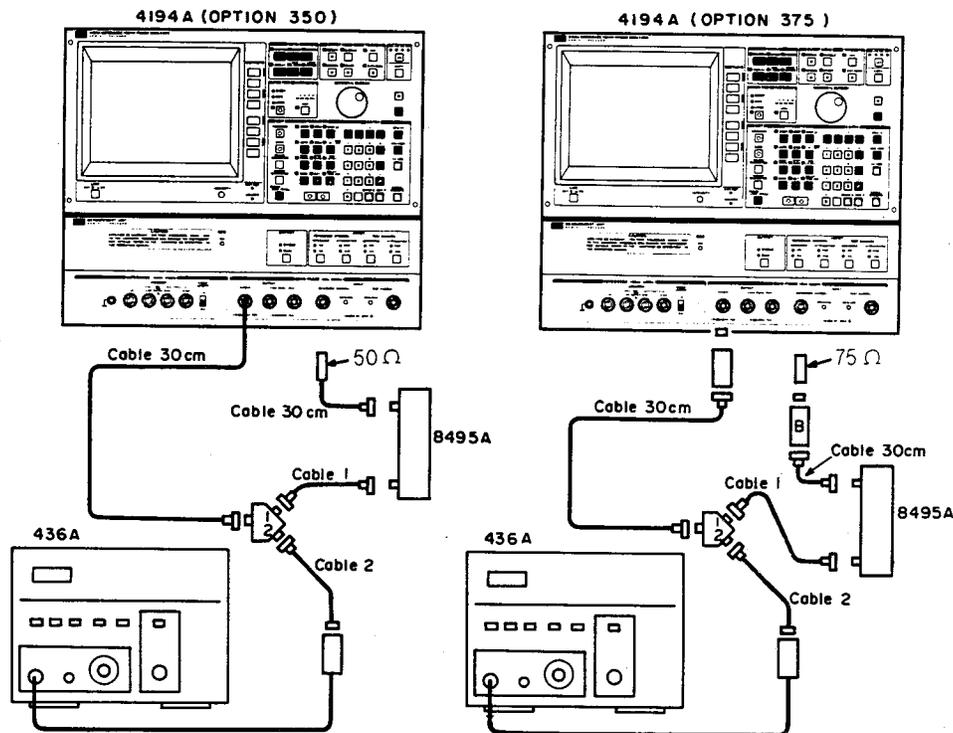

Figure 4-20. Amplitude Measurement Accuracy Test Setup 6
1. Connect the appropriate (50 Ω or 75 Ω) feedthrough termination to the REFERENCE CHANNEL as shown in Figure 4-20.